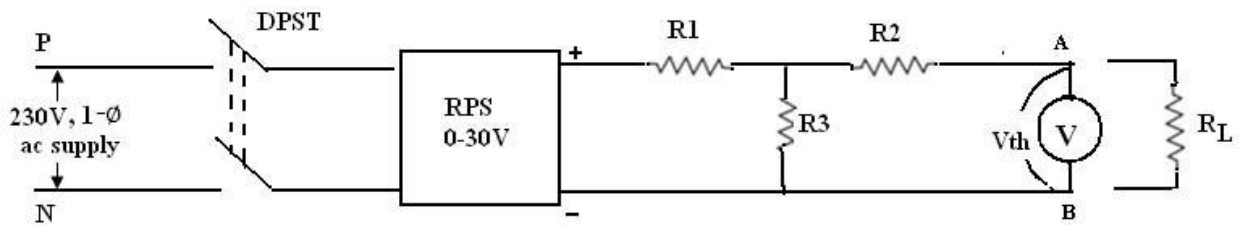

Fig:3
Referring to fig.3
1. Connect the circuit as shown in fig.3 and apply suitable voltage. Note down the open circuit voltage (V_{th}).